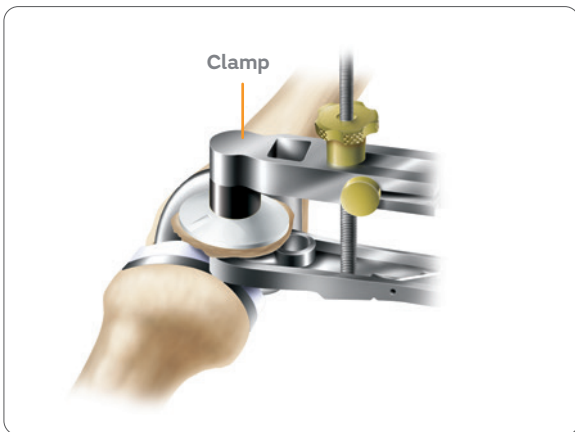

Figure 85
3. Place the patellar implant onto the patella and clamp into the bone (**Figure 85**). Remove excess cement.